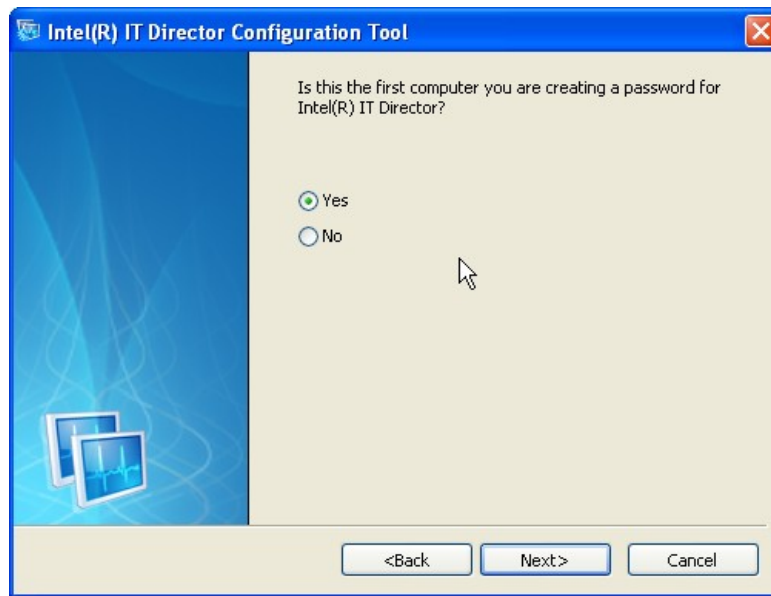

Figure 6-38: IT Director – Creating Password
Step 17: Select whether this is the first computer you are creating a password for IT Director. (**Figure 6-38**).